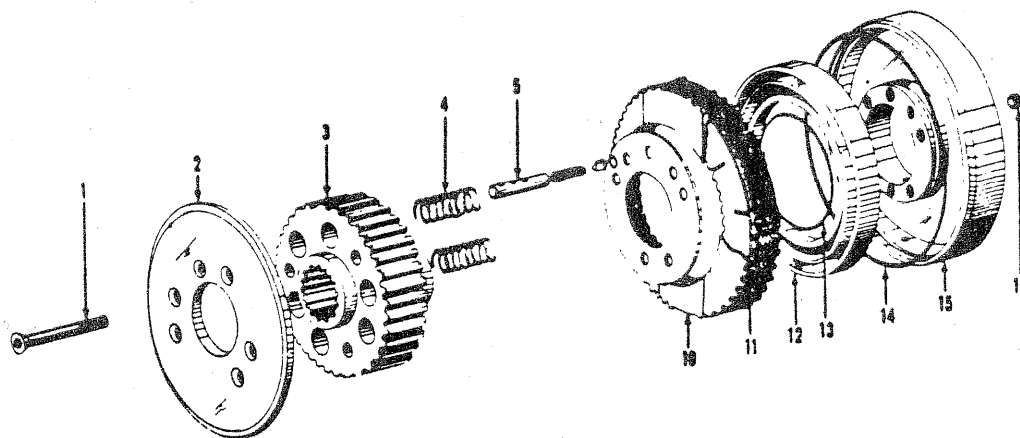

Figure 23
1. Remove the allen head setscrews (17), Figure 23.
2. Turn clutch over and remove flat head capscrews (1), remove end plate (2), Figure 23, exposing the clutch discs (10) and return springs (4).
3. Lift discs (10) and separator plates (11) from the drive hub (3).
4. Lift drive hub (3) and clutch piston (12) from retainer plate (15).